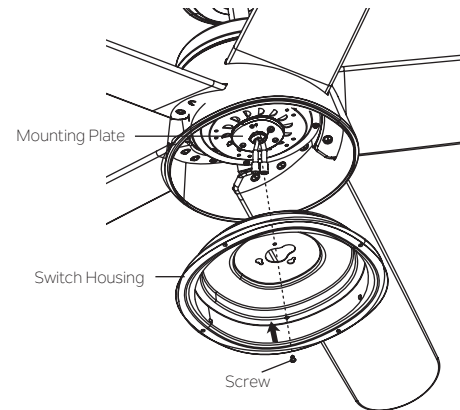

Fig. 20
**Step 2.** Place the two slot holes on the switch housing over the 2 screws previously loosened from the mounting plate. Rotate the switch housing until it locks in place at the narrow end of the key holes. Secure by tightening the 2 screws previously loosened and the one previously removed. (Fig. 20)